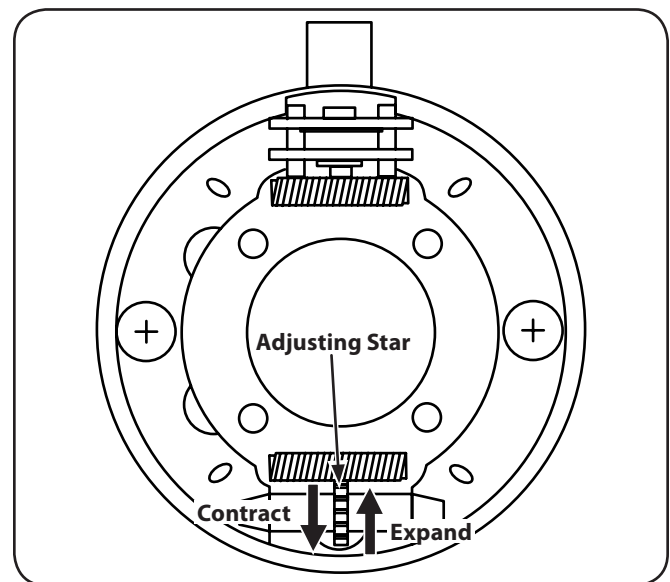

Figure 6-9
4. Use a 1-1/8" socket wrench on the pulley side of the spindle bolt. See Figure 6-9.